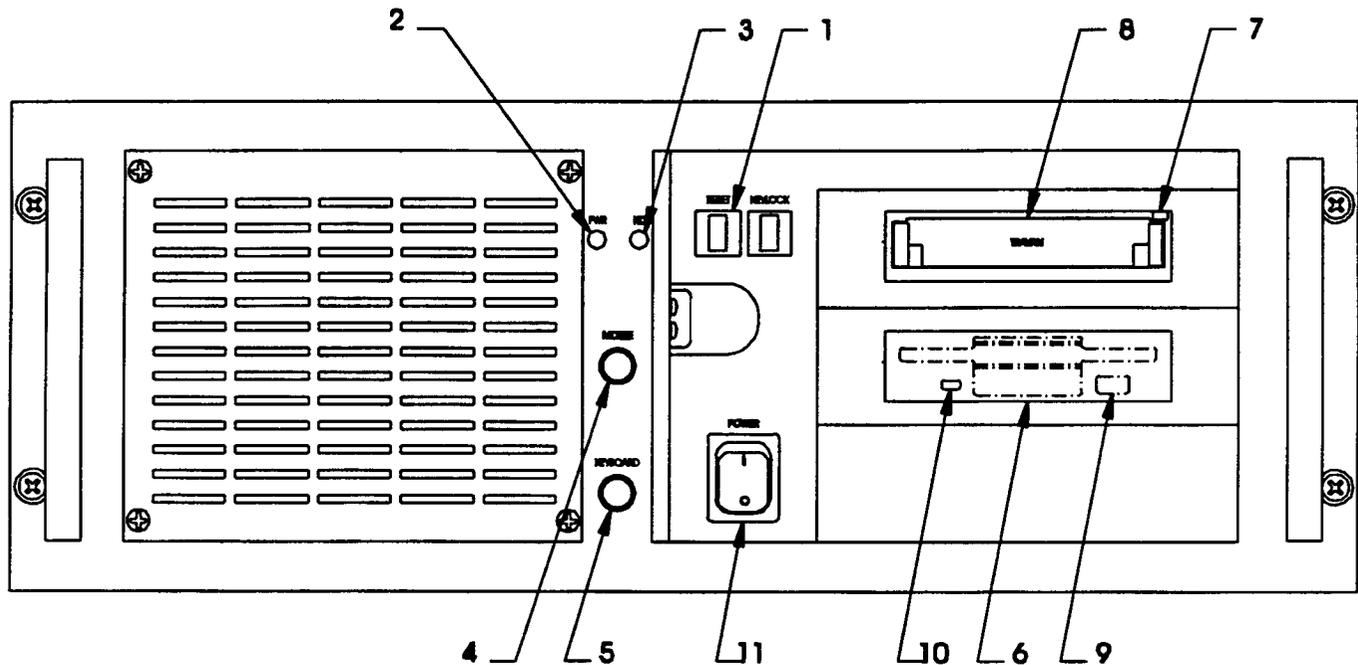

Figure 2-2. System Controller Controls and Indicators
2.1.2 System Controller (Host Computer). The following controls and indicators, shown in Figure 2-2 are located on the front of the system controller.